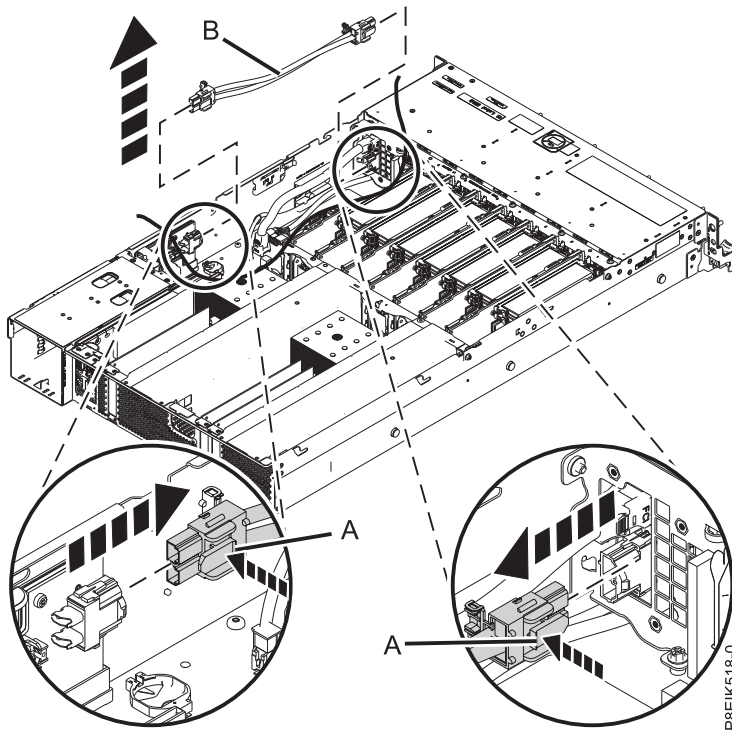

Figure 61. Removing the fan power cable from the system
4. Grasp the connector end of the fan power cable that is connected to the power riser. See (A) in Figure 61 on page 51.